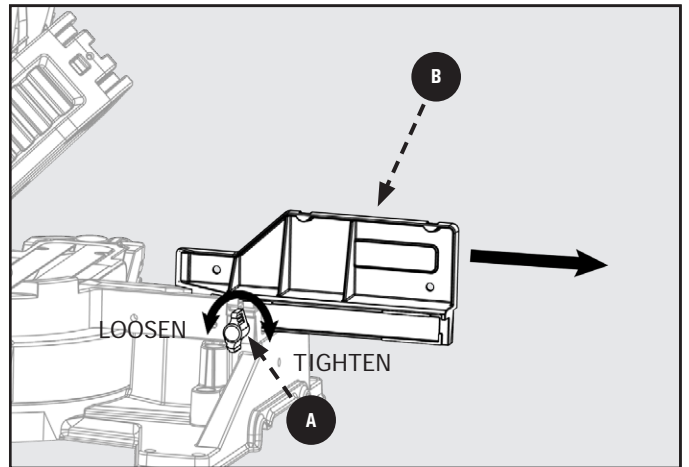

Figure 39
1. Loosen the fence lock knob (A). Slide the upper (adjustable) fence completely out of its track and set to the side. See Figure 39. (Both fences need to be removed).